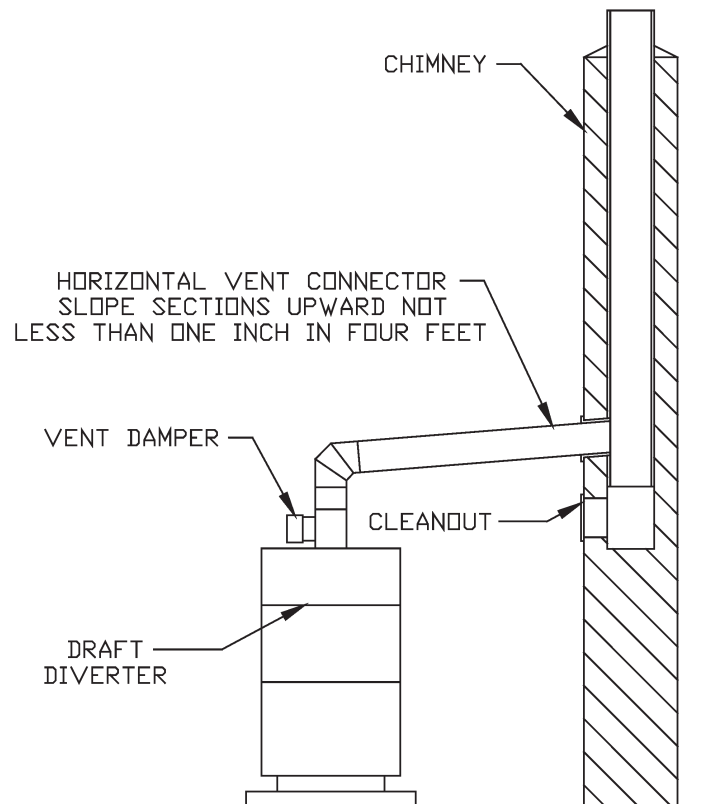

FIGURE 3: FORCESTM BOILER TYPICAL VENT SYSTEM INSTALLATION AND COMPONENTS
1. A typical vent installation is illustrated by Figure 3. The components of vent installation are the vent damper (if used), vent connector and chimney.